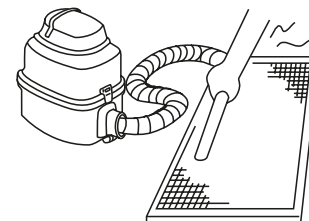

FIG. 6-3
- The air-in side should face up when using vacuum cleaner. (See Fig. 6-3)